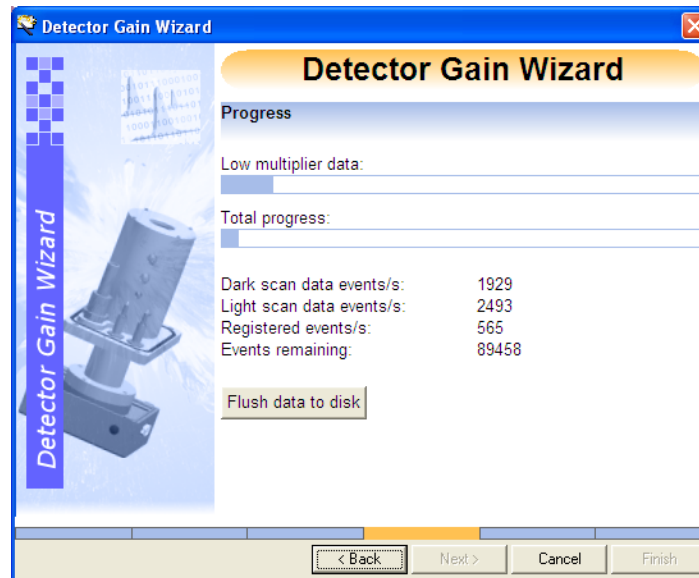

Figure 11 - Low multiplier data
17. Examine the "Registered events/s" count on the Detector Gain wizard (Figure 11).